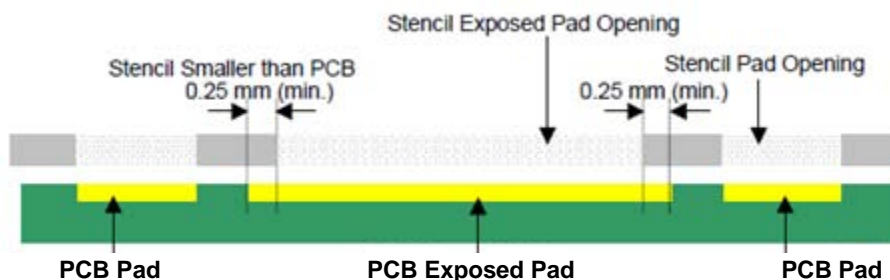

Figure 19. Reduced solder stencil aperture for exposed pad
- On QFN with exposed pads, the EP stencil aperture openings should be 0.25 mm smaller than the copper pads on PCB, as shown in Figure 19. This will allow for proper registration of the stencil to the pad pattern.